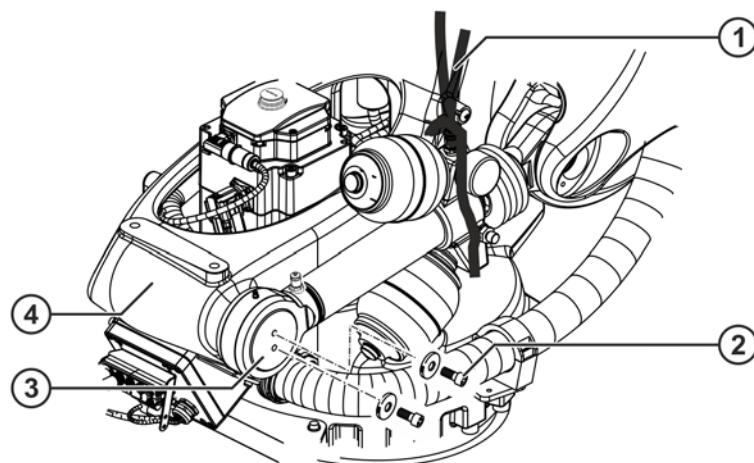

Fig. 11-32: Installing the counterbalancing system on a ceiling-mounted robot, rotating column
5. Lift the counterbalancing system with a rope sling and bring it to the site of installation (>>> Fig. 11-32).